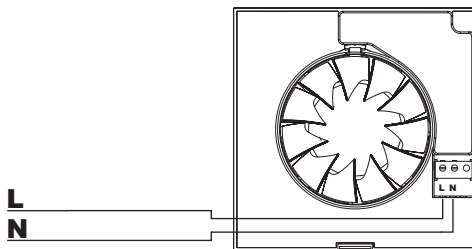

Fig.9
**Case 1:**Automatic operation (fig.9)